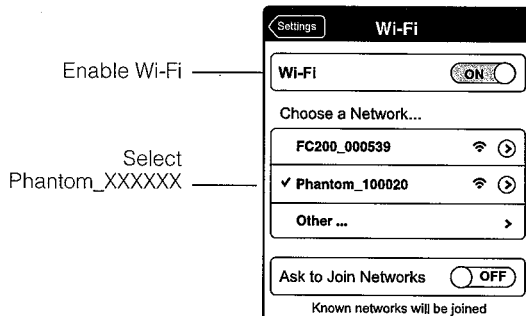

Figure 45
- (1) Power on the Remote Controller and the Range Extender.
- (2) Power on the Phantom 2 Vision+.
- (3) Enable the Wi-Fi on your mobile device; wait for about 30 seconds, and then select "Phantom_XXXXXX" from the Wi-Fi network list (Figure45).